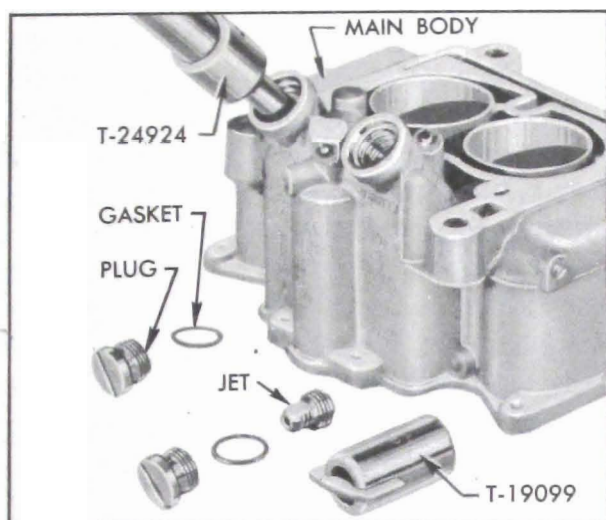

Figure 3-69—Removing Plug and Main Metering Jet
13. Remove main discharge jet plugs using Screw Driver T-19099, remove copper gaskets, then remove main metering jets using Jet Socket T-24924. See figure 3-69.
8. Install main metering jets, using Jet Socket T-24924. Install main discharge jet plugs, using new copper plug gaskets if available; otherwise make sure that plugs and seats are clean to insure tight joint. Tighten plugs with screw driver T-19099. See figure 3-69.